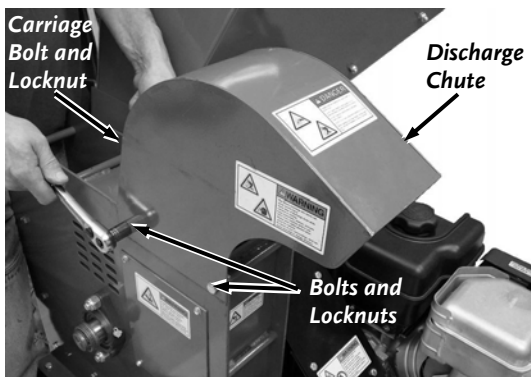

Figure 8
1. Position the Discharge Chute as shown and insert the two 5/16-18 x 4-1/2" Bolts and Nylon Locknuts hand tight (**Figure 8**).